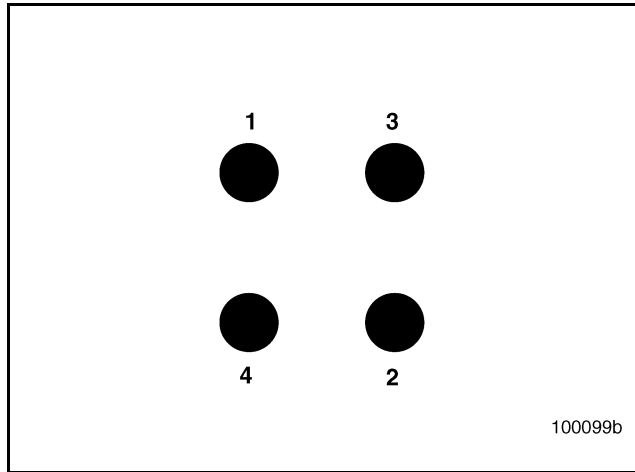

Figure 517 — Turbocharger Tightening Sequence
4. Apply a coating of clean engine oil to the flanges and threads of the four nuts. Install the nuts and using torque wrench J 24406, or equivalent, tighten the nuts in a cross-pattern sequence (Figure 517) in two stages: